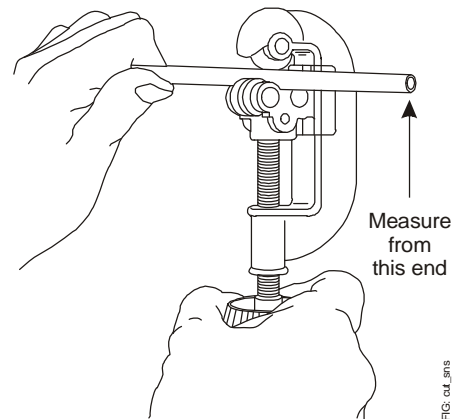

Figure 4: Cutting the Sensor Probe
2. Cut the probe using a tubing cutter with a sharp blade, as shown in Figure 4. (Cut slowly, using minimal pressure to decrease burr size and help avoid damaging the leads.)